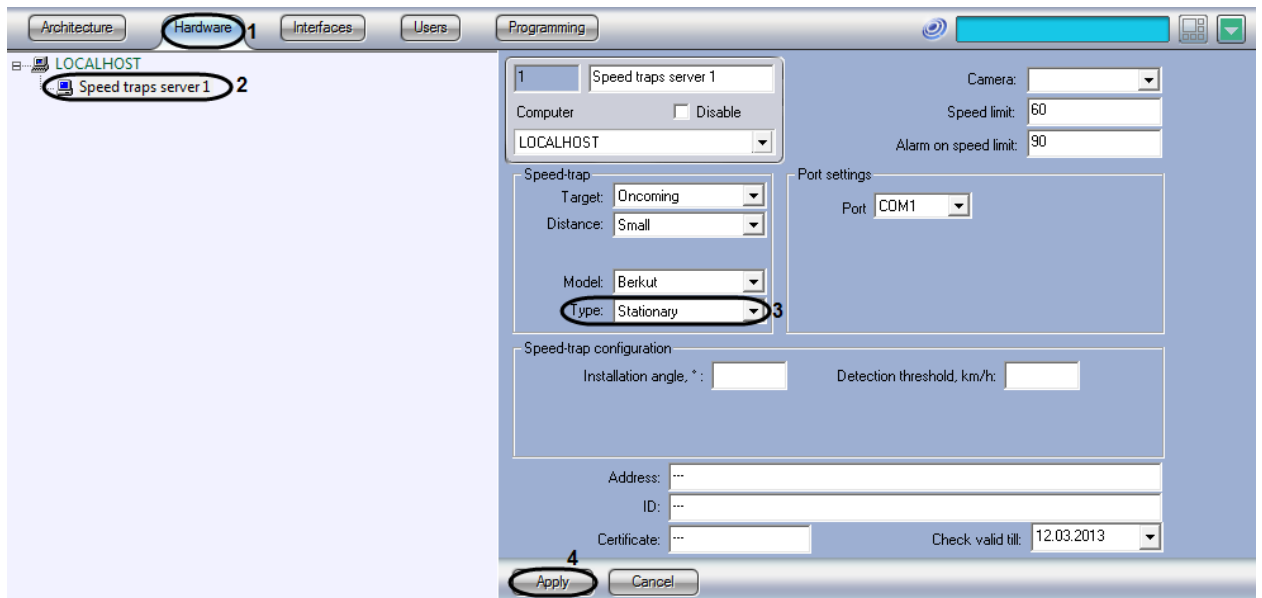

Fig. 7.3—6 Select the setting type of the Radar device
2. In the object tree on the left side of the Hardware tab, select the Speed-trap server object representing the Radar module to be set up. The settings panel of the selected object will open on the right side of the window (Fig. 7.3—6, 2).
3. Select the setting type of the Radar device from the Type list. Select the Stationary value if the Radar device is set stationary and select the Moving value if it is set on the moving vehicles (Fig. 7.3—6 , 3).
4. Click Apply (Fig. 7.3—6, 4).